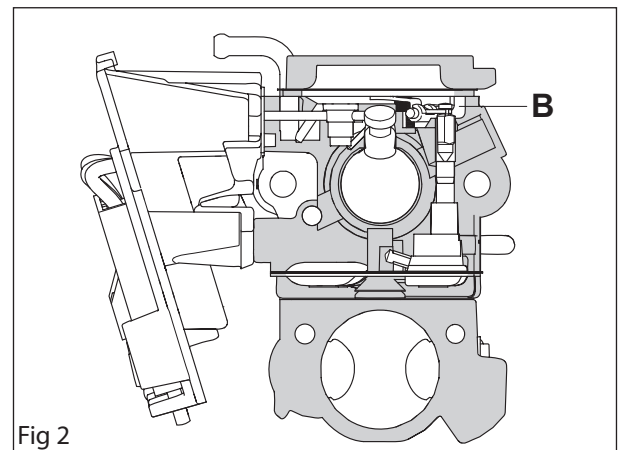

Fig 2
The fuel control unit is attached to the metering unit (B). Here the correct quantity of fuel is adjusted for the actual speed and power output. See figure 2.